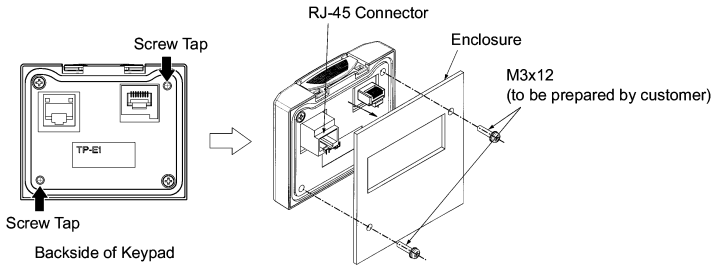

Figure 2.34 Mounting a Keypad on the Enclosure Wall
(Refer to Figure 2.34.)
- ③ Make a cut-out on the enclosure wall. For details, refer to Chapter 8, Section 8.5.3 "Keypad."
- ④ To mount the keypad on the enclosure wall, fix it firmly using a pair of M3 screws put through the taps shown below. (Figure 2.34.)